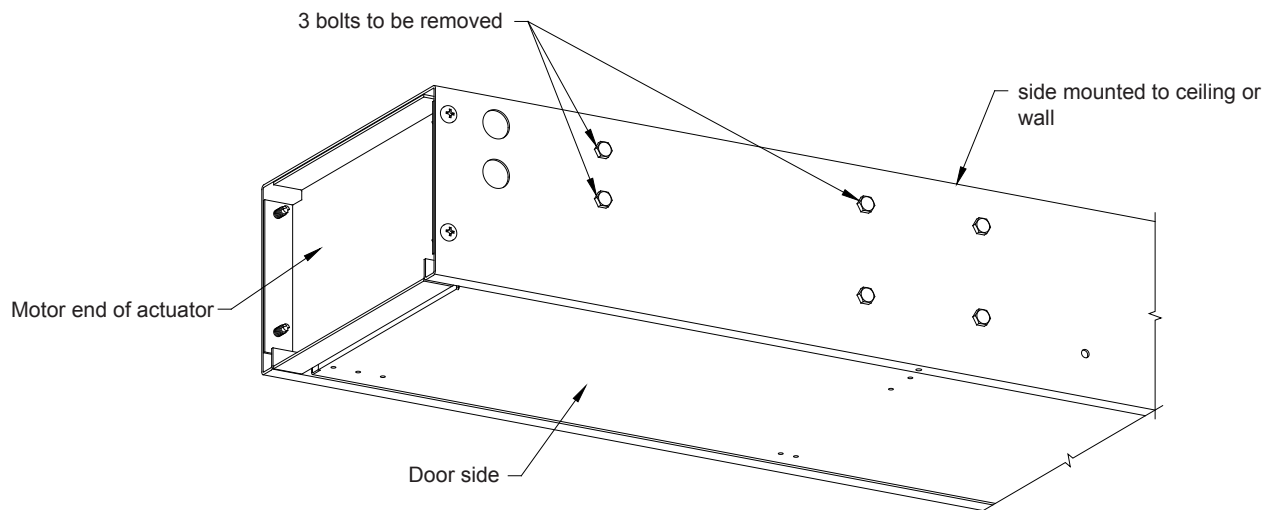

Figure 1
- 3) Remove the (3) $\frac{1}{4}$ - 20 x $\frac{3}{4}$ " bolts holding the potentiometer bracket to the BA4000. **See Figure 1.**